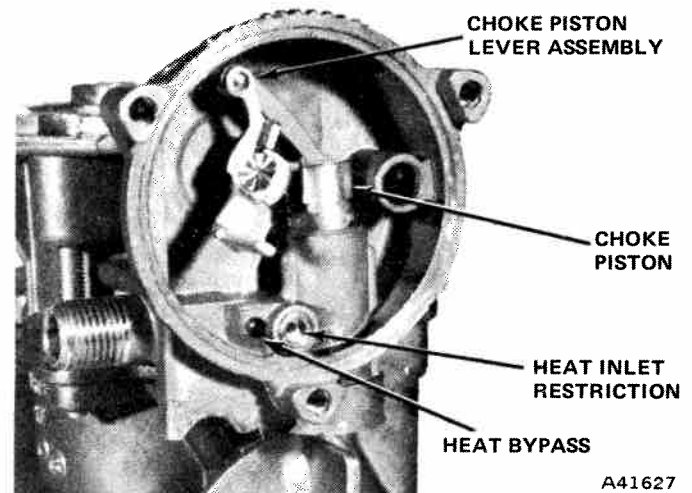

Fig. 4-18 Choke Piston and Lever Assembly
(5) Remove air cleaner bracket. Remove choke plate attaching screws. File staked ends and use new screws upon assembly. Remove the choke plate from air horn assembly, choke link lever, and attaching screw. Rotate the choke shaft and piston assembly counter-clockwise until the choke piston is out of the choke piston cylinder (fig. 4-18). Remove assembly from air horn. Remove piston pin and piston from choke piston lever and link assembly.
(6) Turn pump main body casting upside down and catch accelerating pump check ball and weight.
(9) Align pump diaphragm with diaphragm housing (make sure the holes are aligned) and install housing attaching screws.
(10) Align pump housing, pump lifter link, metering rod and baffle plate with main body casting.
(11) Install assembly in main body casting, being careful to engage pump lifter link with main body and to insert metering rod in metering rod jet.
(12) Install the pump housing attaching screws but do not tighten. Push down on the diaphragm shaft to compress diaphragm and tighten attaching screws.
(13) Adjust the metering rod, following procedure under Metering Rod Adjustment.
(14) Install fast idle cam and shoulder screw. Install throttle shaft arm and pump connector link on throttle shaft and pump lifter link. Tighten lock screw.
(15) Assemble choke piston and pin to choke piston lever and link assembly. Install choke shaft assembly in the air horn and position piston (fig. 4-18).
(16) Align piston with cylinder and rotate shaft assembly clockwise until piston pin is inside piston cylinder.
(17) Position choke plate on choke shaft and install screws. Do not tighten screws.